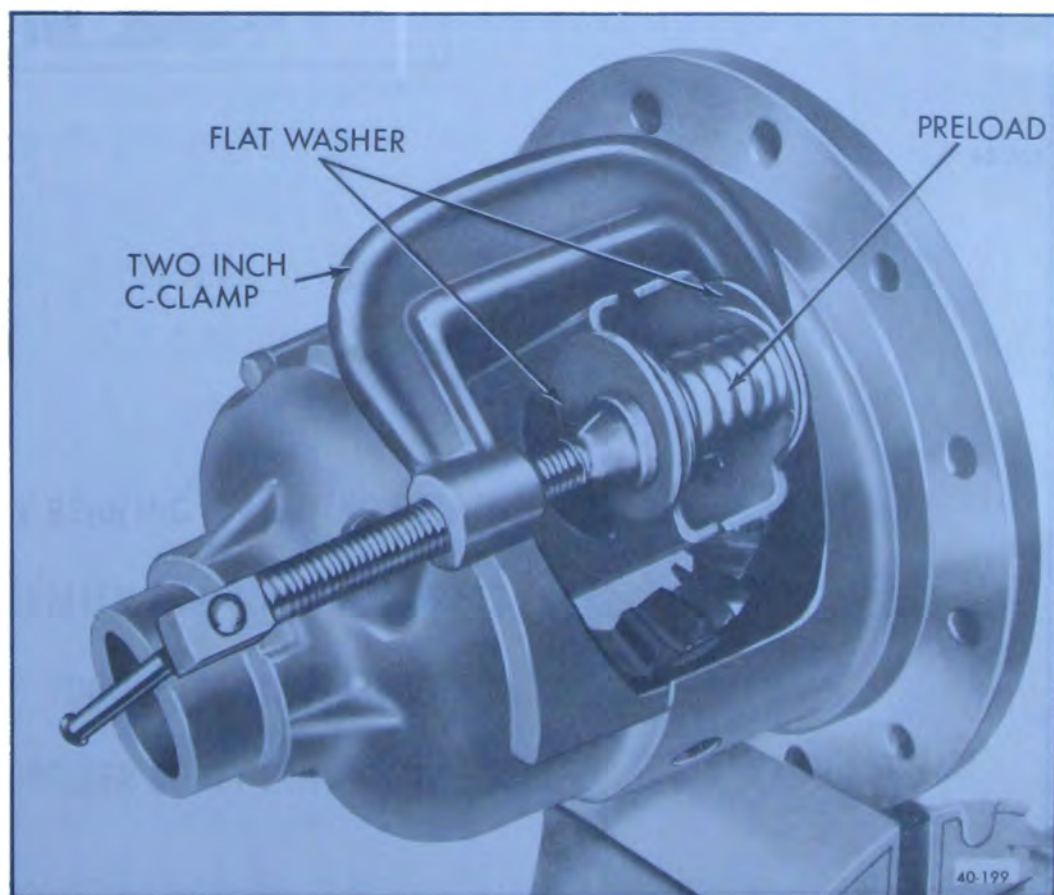

Figure 40-187—Compressing Preload Springs
9. Compress the preload springs as shown in Figure 40-187 and install the preload thrust blocks and springs between the side gears.